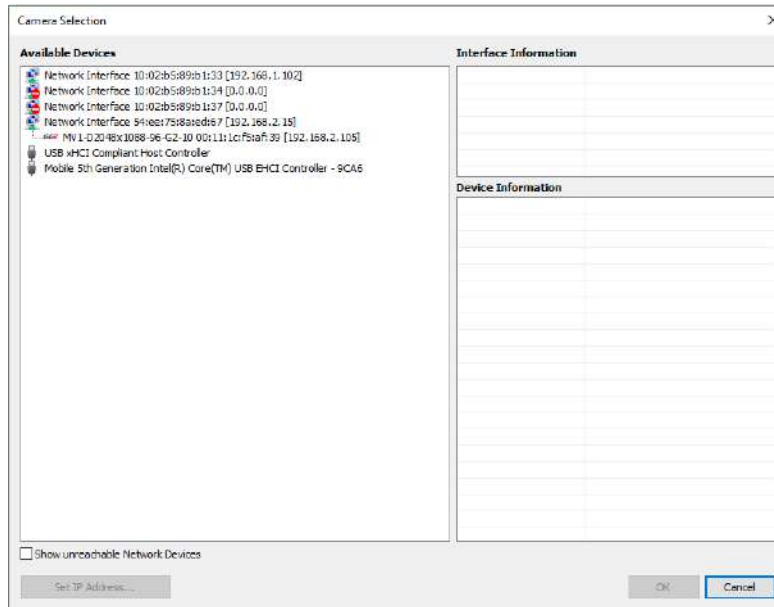

Figure 21: Connecting to microscope
- (b) It may take several seconds to connect to the camera. Often, the user will have to manually select the camera from a camera dialog, shown in Figure 21. For more help on connecting the camera, see the Troubleshooting Guide (Section 9).